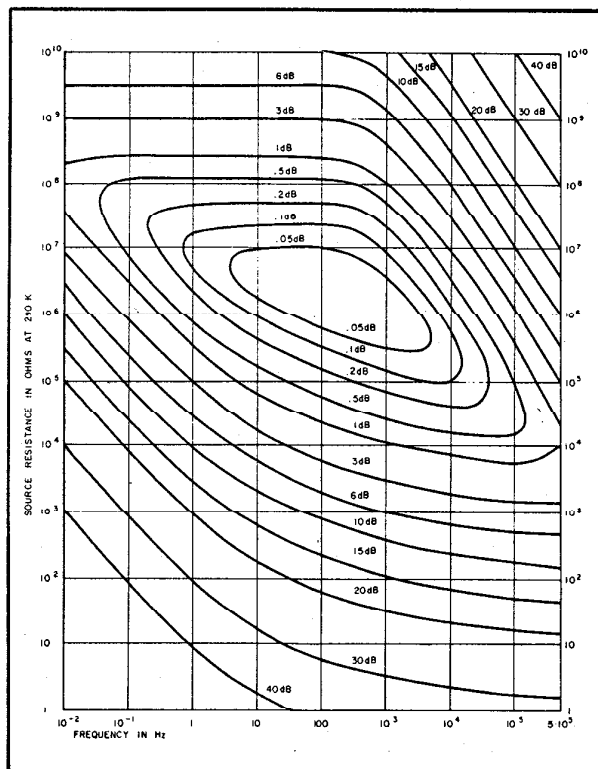

Figure III-1. TYPICAL NOISE FIGURE CONTOURS
Each amplifier has its own characteristic noise figure, which varies as a function of frequency and source resistance. These figures are obtained experimentally, and plotted graphically. Figure III-1 is a typical set of noise figure contours for the Model 113.
From Figure III-1, the noise figure for the Model 113 at a center frequency of 1500 Hz and a source resistance of 50 ohms is 18 dB. Substituting these values into equation (3):
Occasionally the dc component is not required, so that the best noise performance can be achieved with the help of an input transformer. This is possible by taking advantage of the property of a transformer to multiply the source resistance by the square of the turns ratio and the voltage by the ratio. With a transformer inserted between the signal source and the amplifier input we can increase the effective source resistance to a value that reduces the noise figure to less than 0.05 dB. From Figure III-1, the source resistance should be about 1 megohm. The transformer turns ratio, for this impedance increase, is $\sqrt{R_2/R_1} = 140$. Thermal source noise at the amplifier input is equal to the noise generated by the 50 ohm source multiplied by the turns ratio. With a noise figure near zero, the total equivalent rms input noise is also equal to the noise generated by the 50 ohm source multiplied by the turns ratio, = 70 $\mu\text{V rms}$. Although the numerical value of equivalent input noise is much larger than before, the signal-to-noise ratio is substantially increased. This can be seen by considering all of the transformed source signal voltage as appearing at the amplifier input terminals, because the Model 113 input resistance is much larger than the 1 megohm presented by the transformer; the signal-to-noise ratio is equal to the maximum possible value: $e_{\text{sig}}/E \times \text{antilog NF}/20 \cong e_{\text{sig}}/E$. In this example the transformer increases the signal-to-noise ratio by a factor of 8.